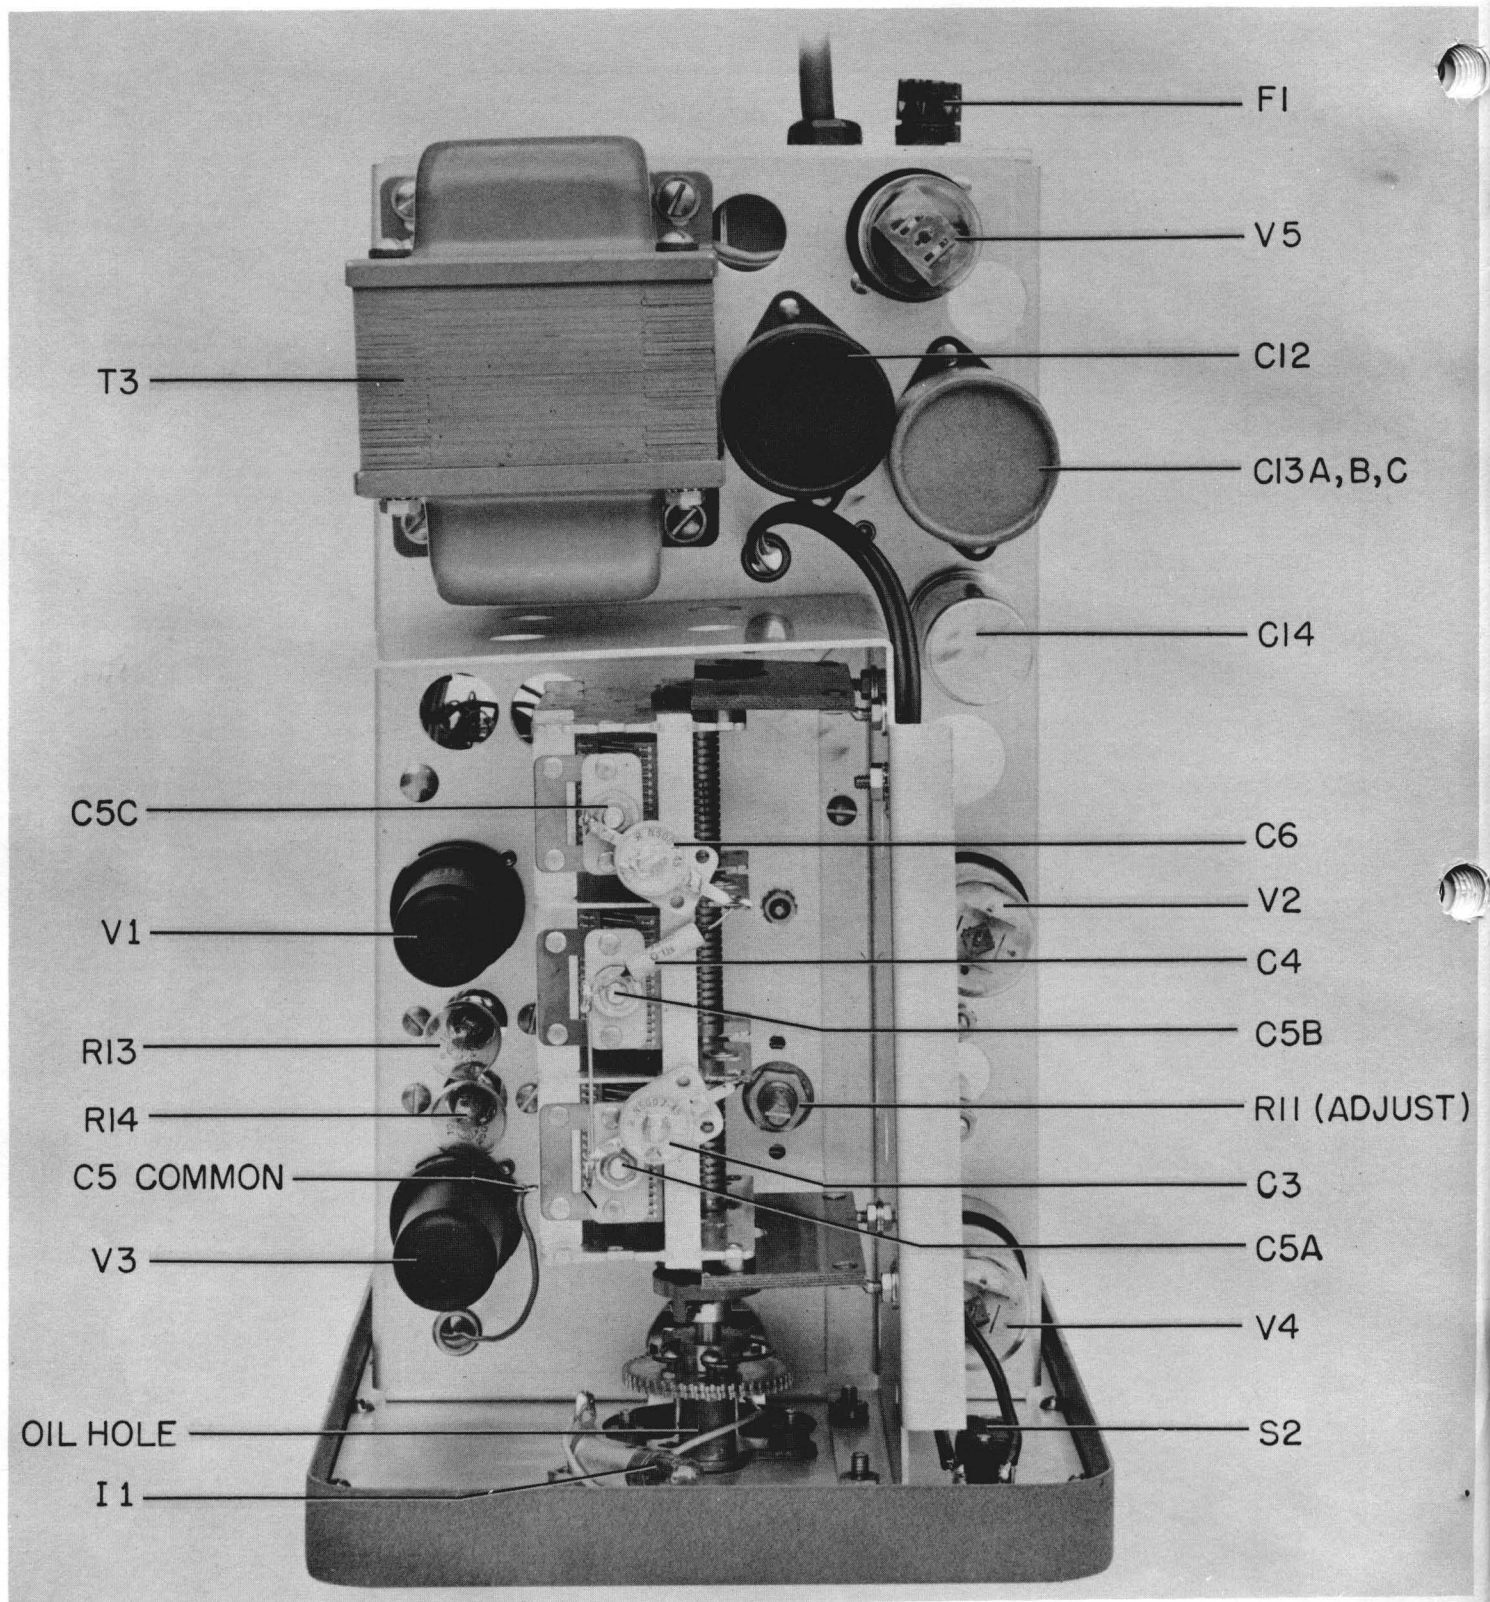

Figure 4-2 Model 200CD Top View Cover Removed
- 2) With alignment tool, adjust either trimmer (C3 or C6 [Figure 4-2]) to bring "60" on calibration. (Seldom necessary to adjust both trimmers.)